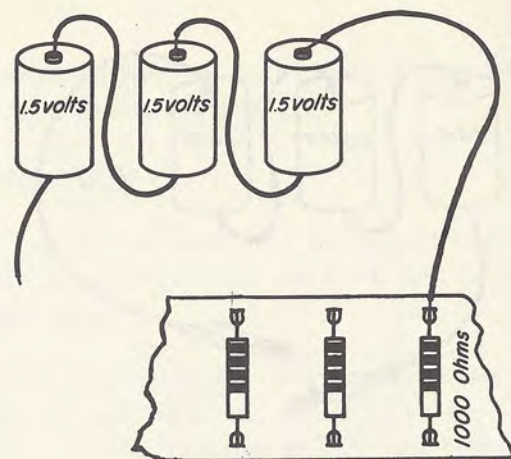

Fig. 7-12
4.5-volt battery to one end of the 1,000-ohm resistor, as shown in Fig. 7-12. Leave the other end of the battery free.